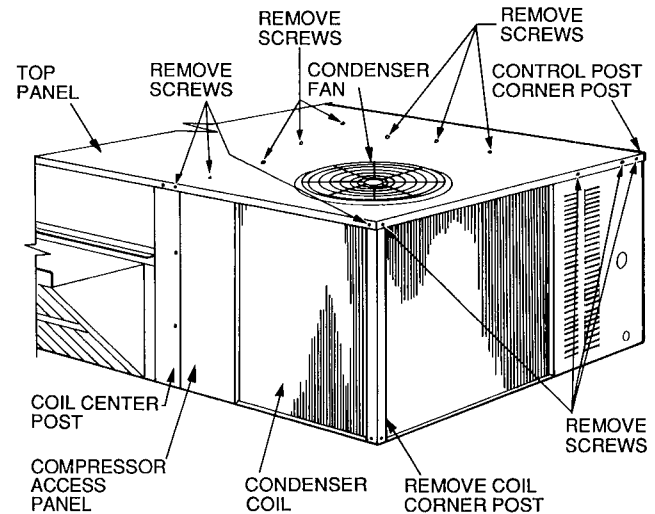
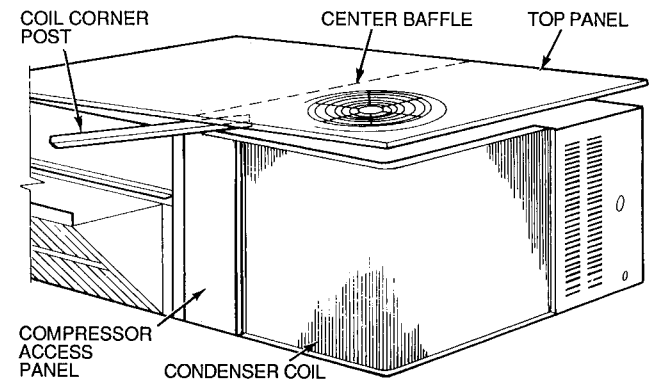

Fig. 31 — Cleaning Condenser Coil (48GJ006)
Fig. 33 — Propping Up Top Panel (48GJ006)
3. Remove condenser coil corner post. See Fig. 31 or 32. To hold top panel open, place coil corner post between top panel and center post. See Fig. 33 or 34.